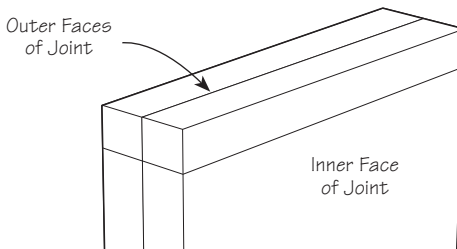

Figure 6: Placing the boards face to face, carefully aligned for layout.
4. Place the two boards to be joined outer face to outer face, as shown in **Figure 6**. Mark each piece and identify the outer faces to ensure there is no confusion as you work.